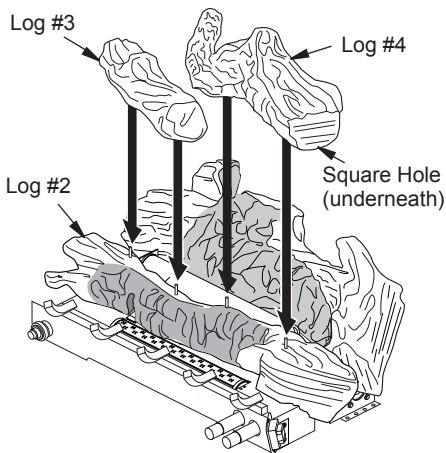

Figure 25 - Installing Logs #3 and #4
3. Align holes in bottom of left top log (#3) with pins on top left of front log (#2). Place log on pins (see Figure 25).
4. Align holes in bottom of right top log (#4) with pins on top right of front log (#2). Place log on pins (see Figure 25). Square hole aligns with right pin.